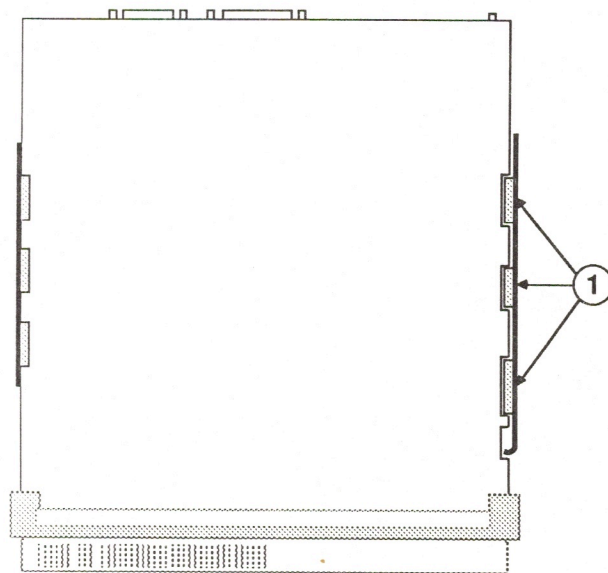

FIGURE 14
6. Holding the board by the edges, slide it up until the tabs on the right edge of the board exactly match the notches in the right metal bracket (Figure 14, #1).